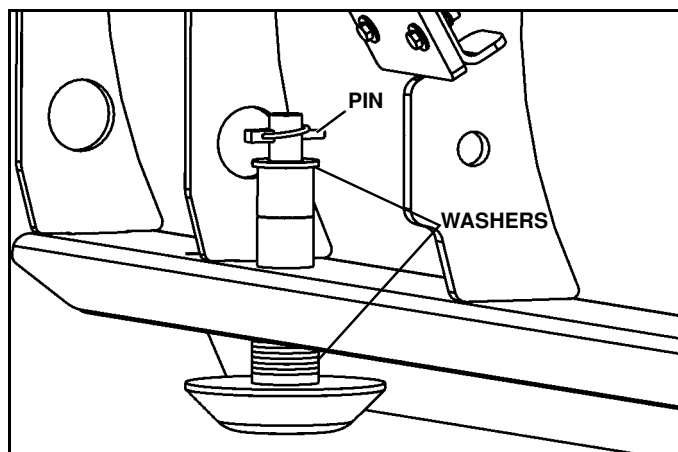

Figure 1-47
4. Adjust shoe assemblies by removing shoe mounting lynch pin and adding or subtracting washers on the top or bottom of the shoe-mounting bracket. (See Figure 1-47).